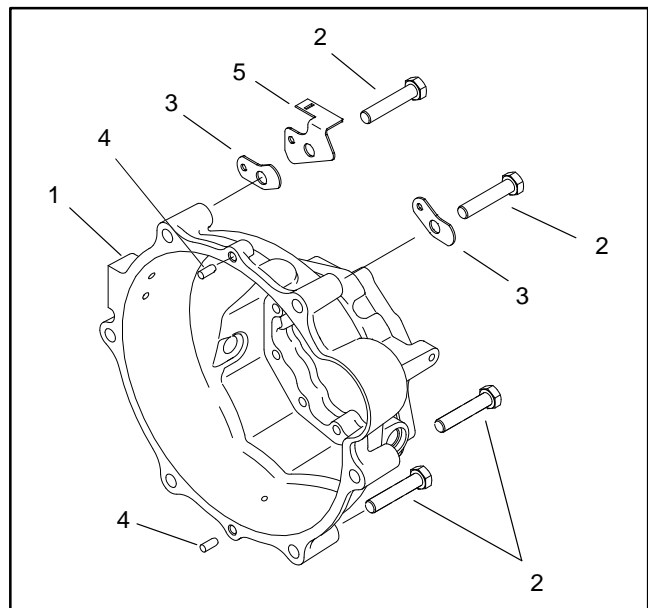

Figure 17
16. Remove six (6) cap screws that secure clutch bell housing to engine. Note location of harness bracket(s) (Fig. 17).
18. Note location and retrieve two (2) dowel pins from bell housing (Fig. 17).
9. Secure bell housing to engine with six (6) cap screws and harness bracket(s) (Fig. 17).